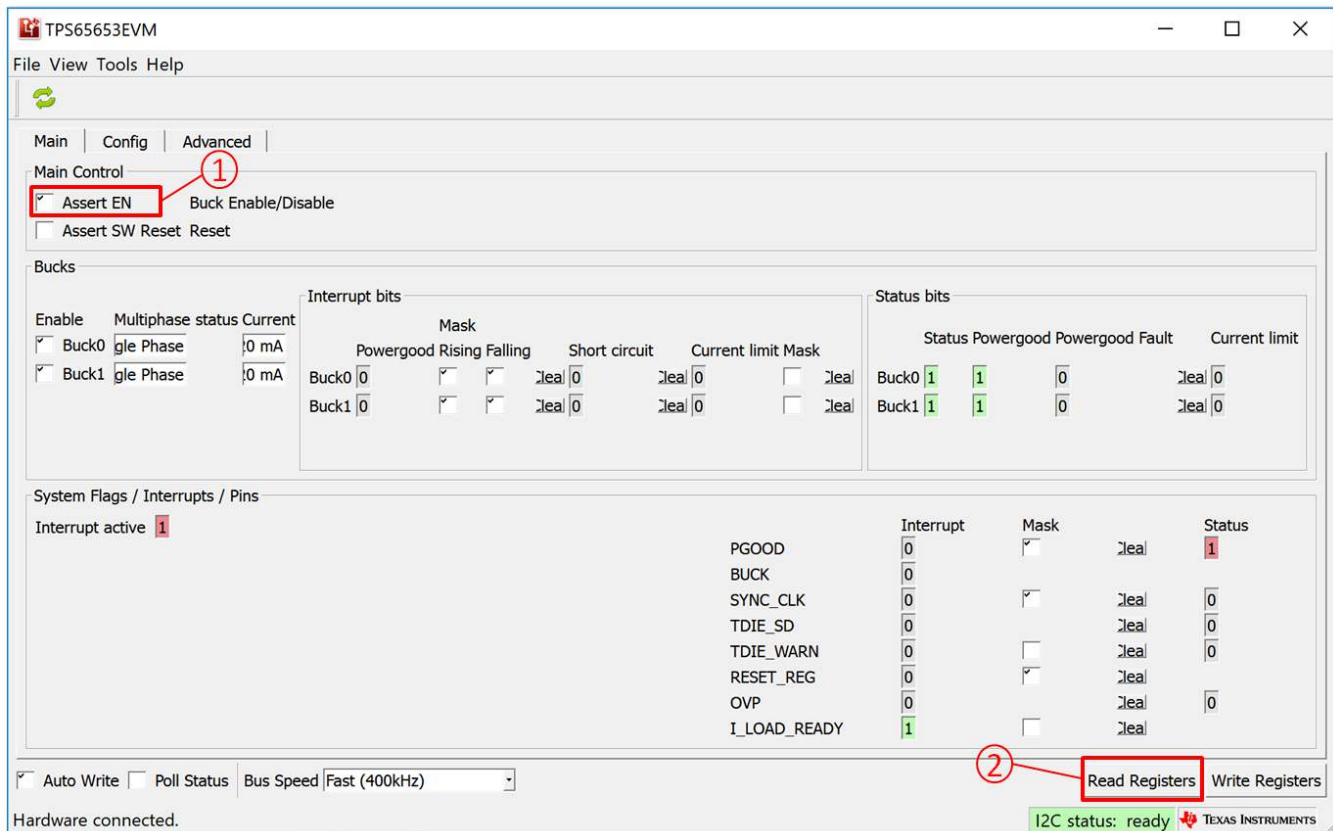

Figure 3. Evaluation Software GUI Showing Steps Needed to Power up the TPS65653-Q1
1. Click on Assert EN check box. See marking 1 in Figure 3..
2. Click on Read Registers button (marking 2 in Figure 3). User should see "I2C Status: ready" message on the green background next to the Read Registers button.